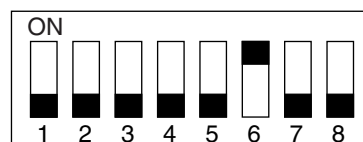

Fig. 3-101
- (1) Remove the right inner cover and the rear cover.
- (2) Adjust the front jogging plate to the home position.
- ① Set SW1 on the finisher controller PC board as shown in Fig. 3-101.
- ② Press SW2 twice on the finisher controller PC board.